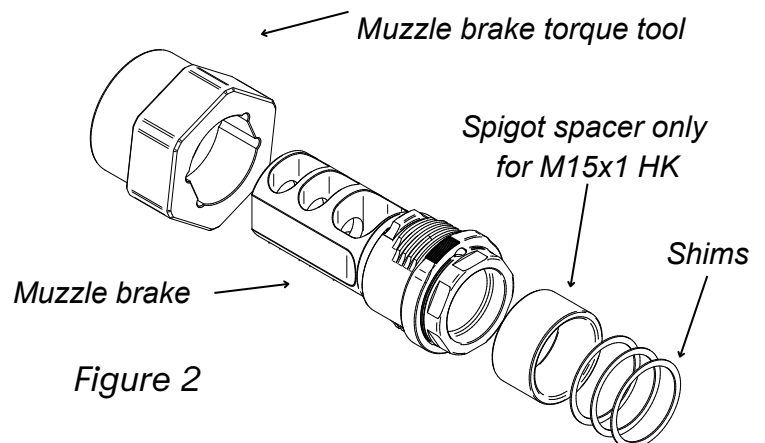

Figure 2
**M15x1 HK Spigot:** use the shims first then the spigot-spacer and then the muzzle brake (Figure 2).